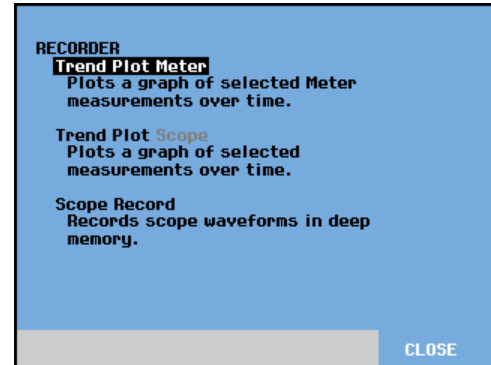

Figure 19. Recorder Main Menu
- 1  Open the recorder main menu. (See Figure 19).